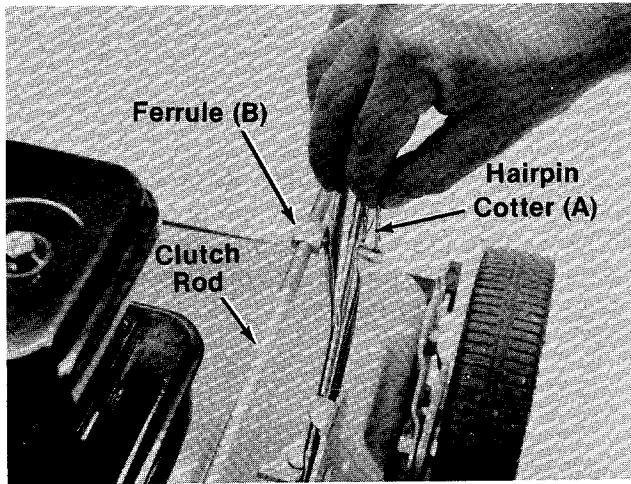

FIGURE 6.
7. Thread the clutch rod into the ferrule (A) until the ferrule lines up with the hole in the lower handle. Secure ferrule in handle with cotter pin (B) as shown in figure 6. Check for 1/8" clearance between drive pinion and front wheels. **See clutch rod adjustment on page 9.**
1. Remove the cotter pin. See figure 6.